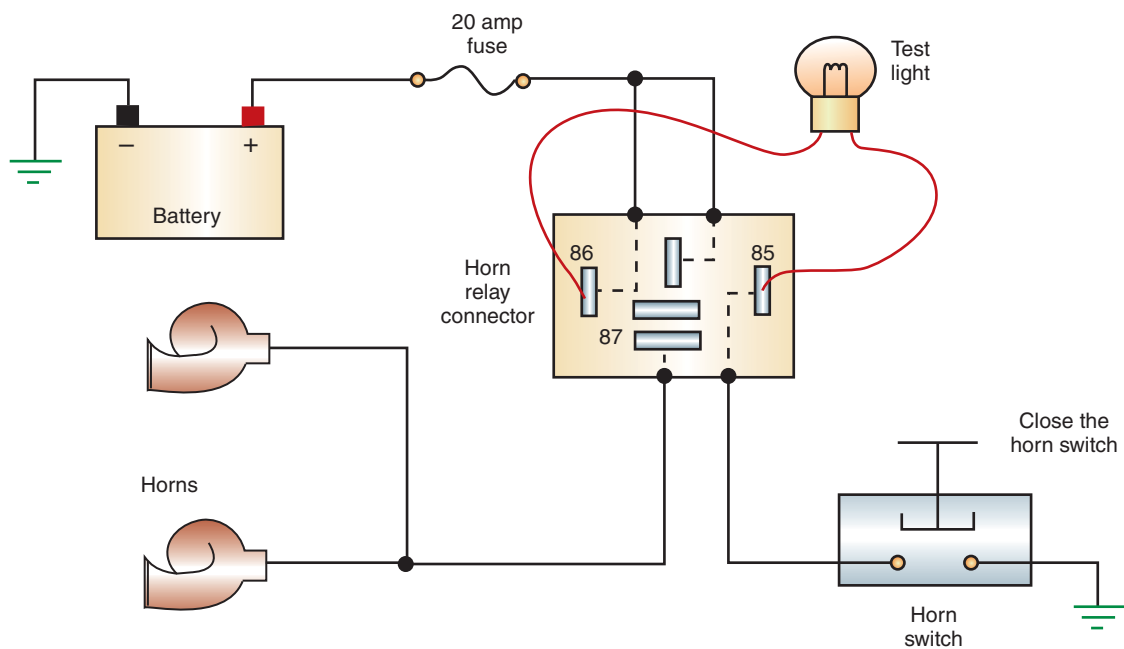

FIGURE 14-2 Using a test light to test the horn switch circuit.
4. With the relay removed, connect a test light across terminals 85 and 86 of the relay connector (Figure 14-2). Press the horn switch and observe the test light. The test light should illuminate. If it does not, the horn switch or its circuit is faulty—go to step 7. If the light illuminates, continue testing.